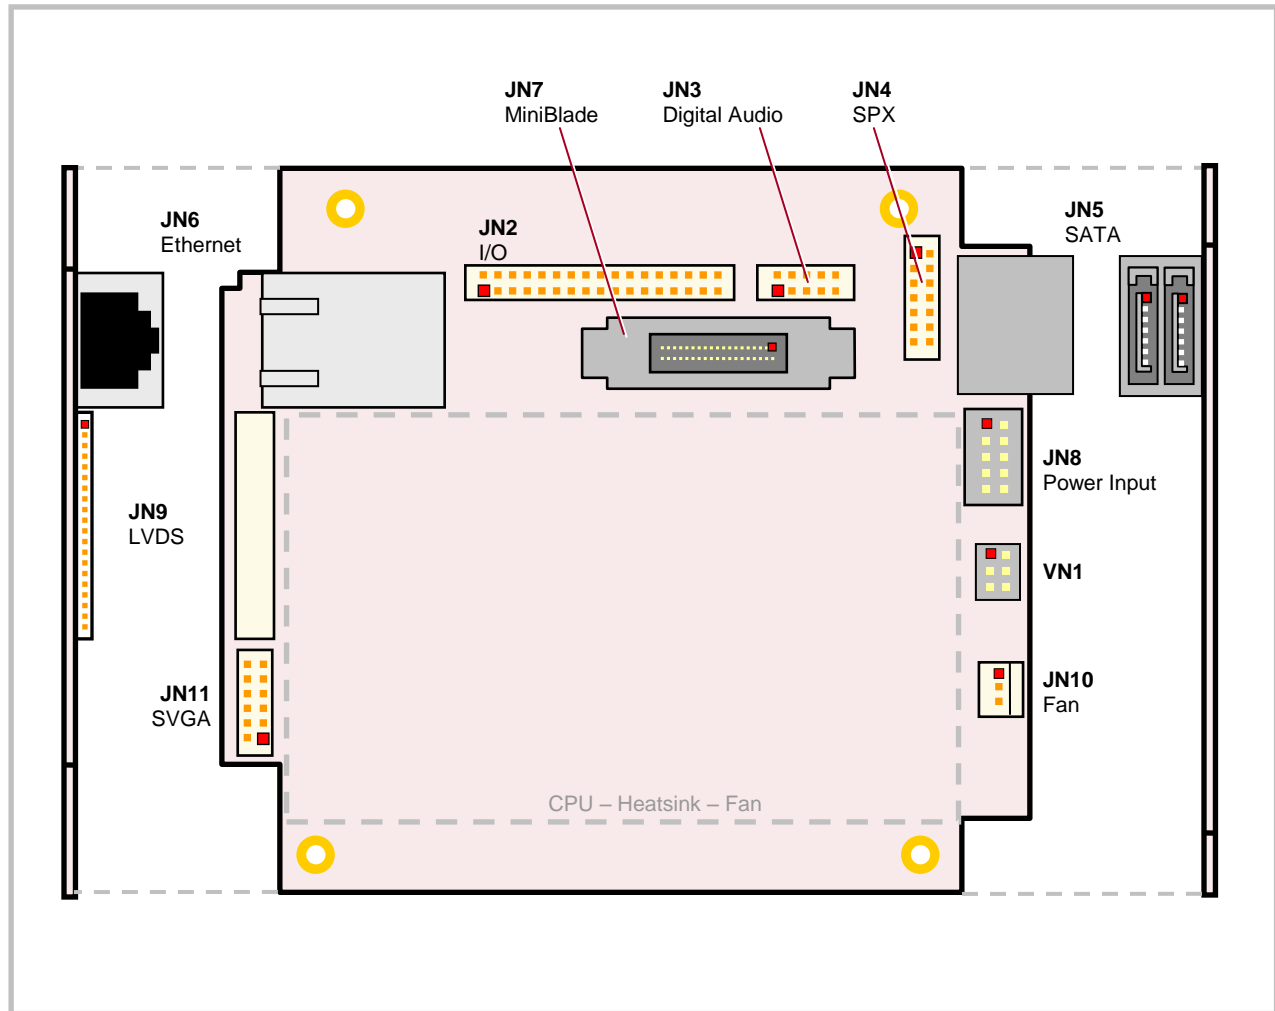

Figure 8. Connector Locations –Top Board (Top View)
1. The PCB Origin is the mounting hole to the lower left, as shown in Figure 8.